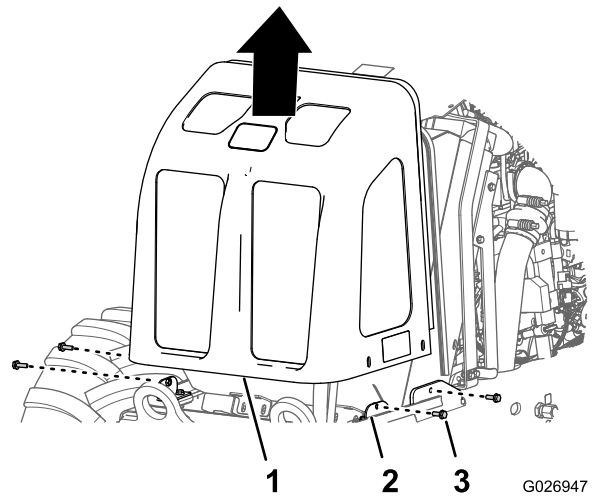

Figure 5
- Tilt the nose panel forward and then lift it up off the machine (Figure 5).
- Remove the 4 flanged-head bolts (10 x 30 mm) that secure the nose panel to the frame of the machine (Figure 5).